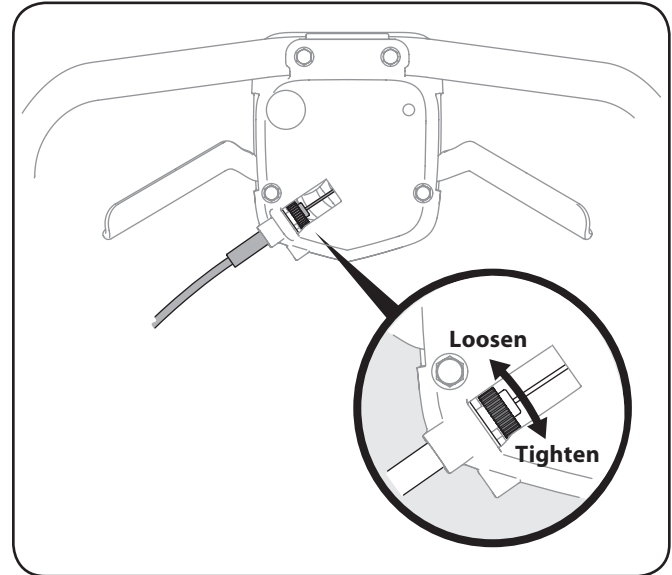

**Figure 3-11**
1. Remove wing nuts and carriage bolts from handle. See Fig. 3-11.
2. Position the handle in one of the three positions that is most comfortable. See Fig. 3-11 inset.